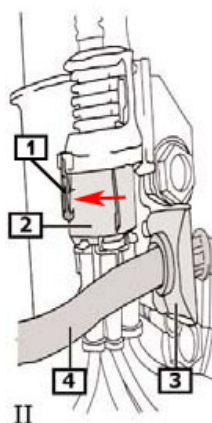

Fig. 3:
4. **Fig. 3** Vehicle with brake lining wear indicator: Disconnect plug (2): Push primary locking mechanism (1) down, turn secondary locking mechanism (2) in the direction indicated by the arrow, pull out cable plugs.